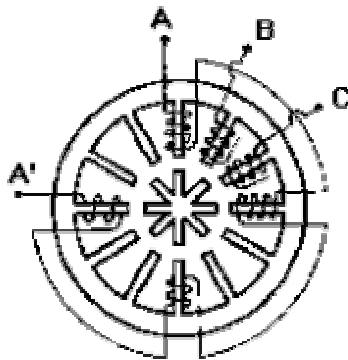

Figure 5: Variable Reluctance Motor
Variable Reluctance (VR) - VR motors are characterized as having a soft iron multiple rotor and a wound stator. They generally operate with step angles from 5 degrees to 15 degrees at relatively high step rates, and have no detent torque (detent torque is the the holding torque when no current is flowing in the motor). In Figure 5, when phase A is energized, four rotor teeth line up with the four stator teeth of phase A by magnetic attraction. The next step is taken when A is turned off and phase B is energized, rotating the rotor clockwise 15 degrees; Continuing the sequence, C is turned on next and then A again. Counter clockwise rotation is achieved when the phase order is reversed.